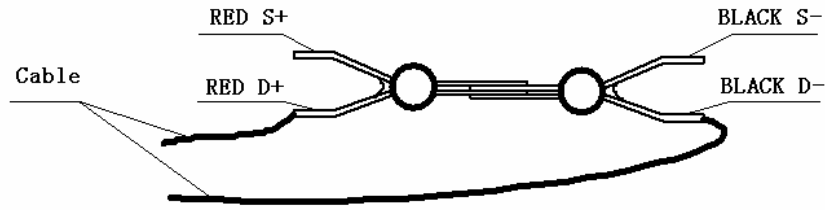

Figure 2-1 Short the test clips
2. Short the test clips as shown in Figure 2-1, making sure that "S+" and "S-" are connected directly and "D+" and "D-" are also connected directly.